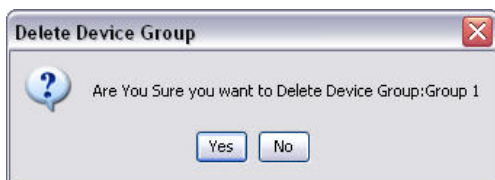

FIG. 131
- c. Use the mouse to select the group folder on the Matrix System side of the screen again. Click the Delete Group button. The Delete Device Group prompt displays asking if you are sure you want to delete the Device Group: named "X" (in FIG. 131 below, the folder is named Group 1). Click the Yes to delete the Group folder or No if you do not want to delete it.